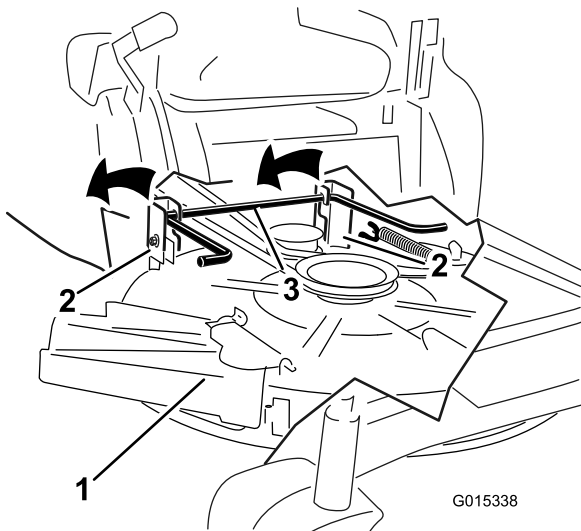

Figure 63
- 6. Lift the mower deck and hanger brackets clear of the rear lift rod, and lower the mower carefully to the ground (Figure 63).
- 5. Lift the rear of the mower deck and guide the hanger brackets over the rear lift rod (Figure 63).